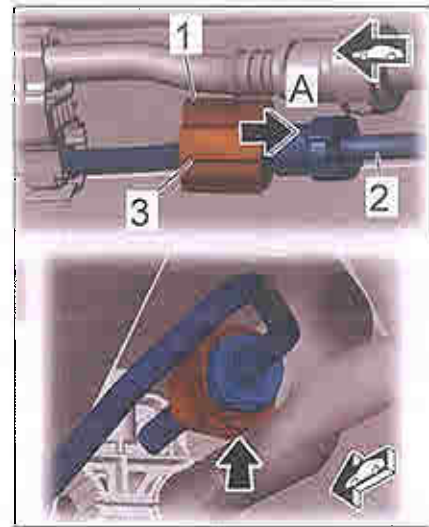

Figure 12
- 3.2 Slide the spacer ring ⇒ *Figure 12-1*- as far as it will go over the rapid-action coupling on the fuel line ⇒ *Figure 12-2*- (⇒ *Figure 12-arrow A*-).
The catch ⇒ *Figure 12-3*- on the spacer ring must be facing down towards the heating pipe ⇒ *Figure 12-arrow*-.